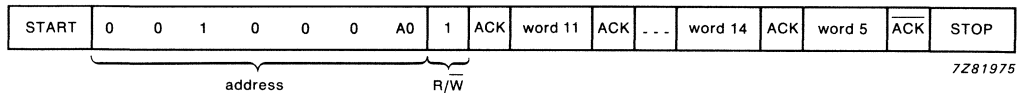

Fig. 3 I2C-bus data format.
The internally latched data from words 5 and 11 to 14 can be clocked out via the I2C-bus interface by a bus master. The lines are the serial clock input (SCL) at pin 8 and the serial data input/output (SDA) at pin 9. The SAA4700 can operate only as a slave transmitter on the bus. Data format is shown in Fig. 3.
- Normally every dataline transmission has to be ended with a STOP condition (as shown in Fig. 3).